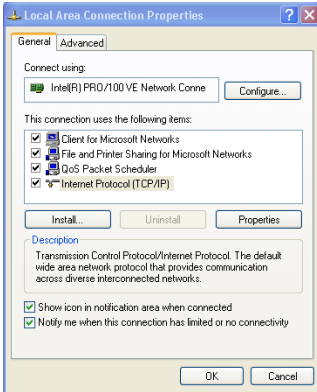

Figure 28: Local Area Connection Properties Window
5. Select the Internet Protocol (TCP/IP) and click the **Properties** Button (see Figure 28).